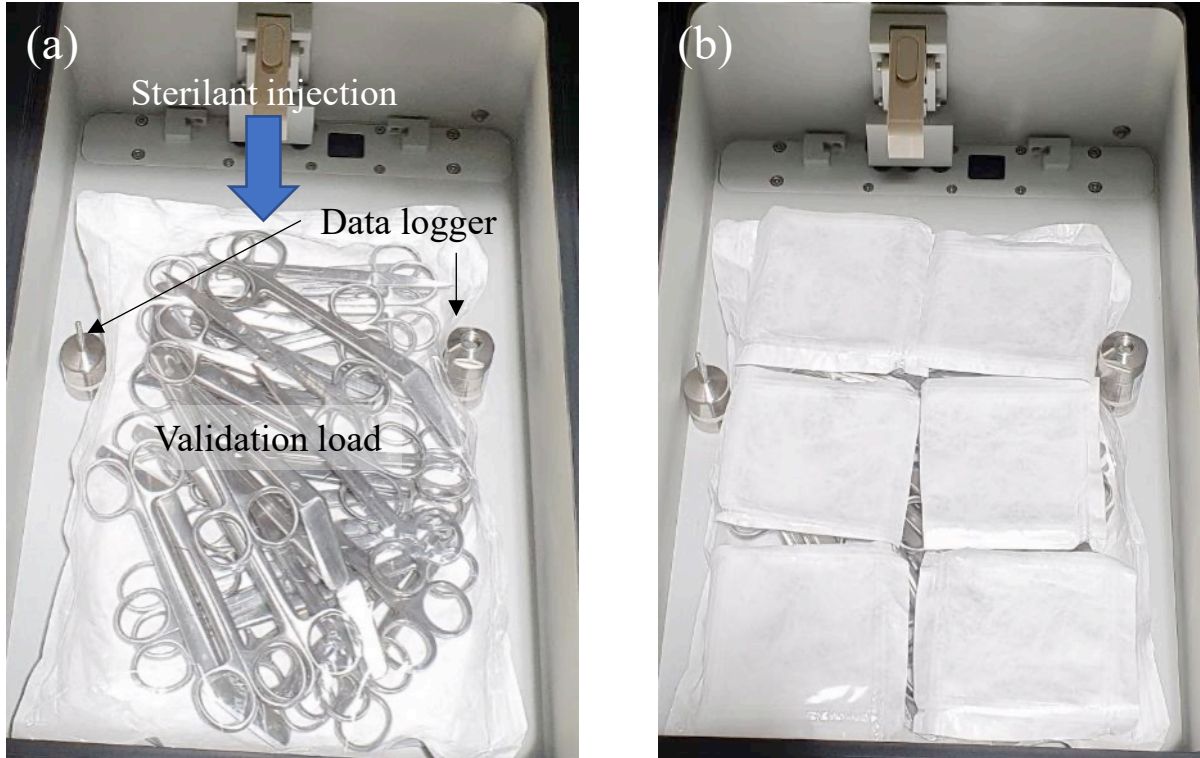

Figure 1.1 (a) The position of validation load and data loggers in the chamber and (b) the test samples were placed on the validation load.
- (1) The sterilization roll was cut into 6 pieces each 10 × 10 (Width × Length, mm) size and sealed as test samples.
- (2) The validation load was placed in the chamber as shown Figure 1.1 (a) of Appendix 1.
- (3) Six sealed test samples were put on the validation load in the chamber.
- (4) The prepared validation load and the test samples were processed with full cycle sterilization of the chamber mode. The temperature and pressure during the sterilization process was measured.
- (5) After sterilization cycle, each test sample was left in the chamber with the chamber lid open for 0, 10, 30, 60, 120 and 300 seconds, and then removed from the chamber and put in each bottle which has 250 ml distilled water.
- (6) The bottle was shaken for 10 seconds to elute the hydrogen peroxide remaining in test sample.
- (7) One hydrogen peroxide test strip was dipped into the water sample in the bottle and shaken gently back and forth for 5 seconds.
- (8) The test strip removed from the water sample and shaken once briskly to remove excess water.
- (9) After 30 seconds, the color of the test strip was match to the color chart, and the hydrogen peroxide concentration was recorded.
- (10) For the negative control, the test strip which was dipped in the distilled water in the bottle without test sample was used.
- (11) The aeration time validation test except the negative control test was repeated three times.